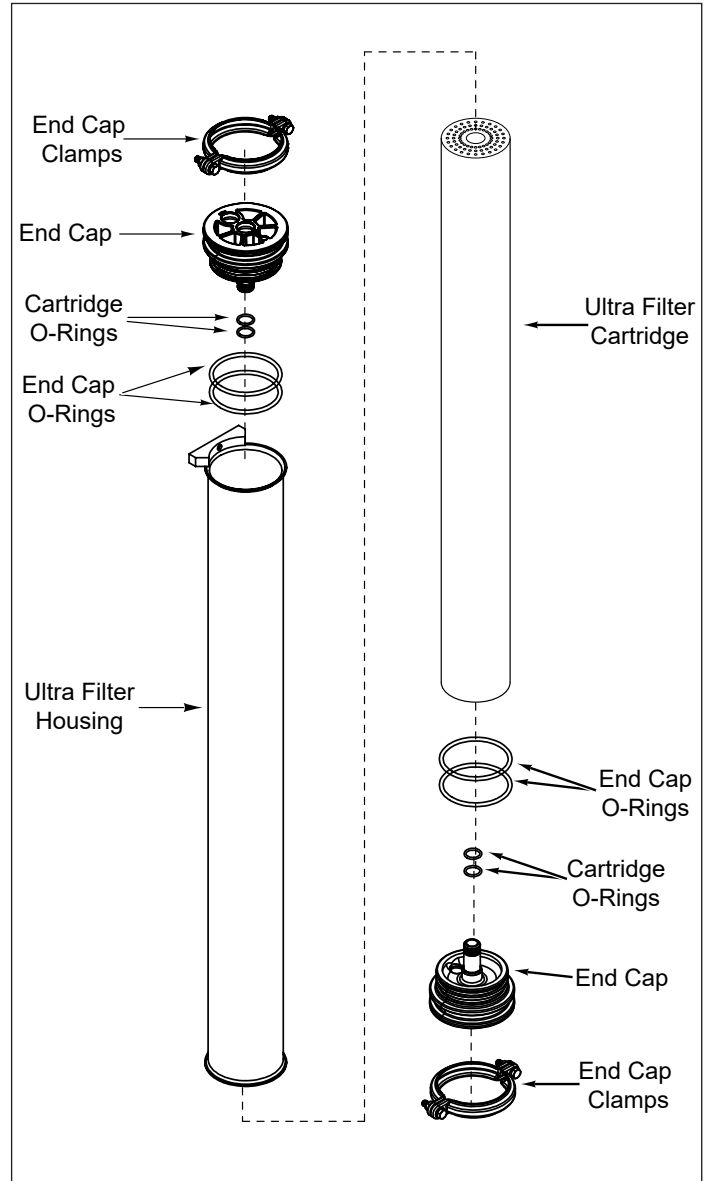

Figure 2. Replacing the Ultra Filter Cartridge
9. Remove the End Cap, End Cap O-ring, and Cartridge from the housing. (Figure 2)